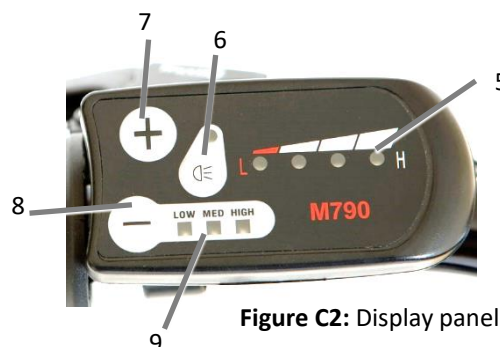

Figure C2: Display panel.
- In Pedal Assist mode (Figure C2), the motor is triggered when you pedal forward, and power assist will stop when you stop pedaling. In other words, power assist happens as long as you pedal. You don't need to pedal hard. All you need is to apply a light force to the pedals continuously to maintain continuous rotation. When you apply one of the brakes, power-assist will automatically stop, allowing the e-bike to slow down or stop. Power assist will turn itself off before the e-bike has reached the maximum speed of approximately 25 km/h
- Note that the Battery level indicators on the display (Figure C2, 5) will only show an estimate of the battery charge level when power is not being drawn from the battery (bike standing still). While using motor assistance voltage will decrease.
The **display panel (Figure C2)** controls a number of features on your ebike.
-Switch bike ON: switch battery ON (refer to relevant section in this manual). Voltage display: Four red lights (Figure C2, 5) will light up if the battery is full. When the battery discharges less lights will show as the battery voltage decreases. The voltage will drop while the bike is used. Stop the bike to read voltage. Voltage reading is just an estimate and approximate. Voltage may not drop in a linear fashion. Check battery power by pushing the white button on top of the battery. Refer to relevant section in this manual.
-Turn on the front and rear light of bike: push the lights button (6)